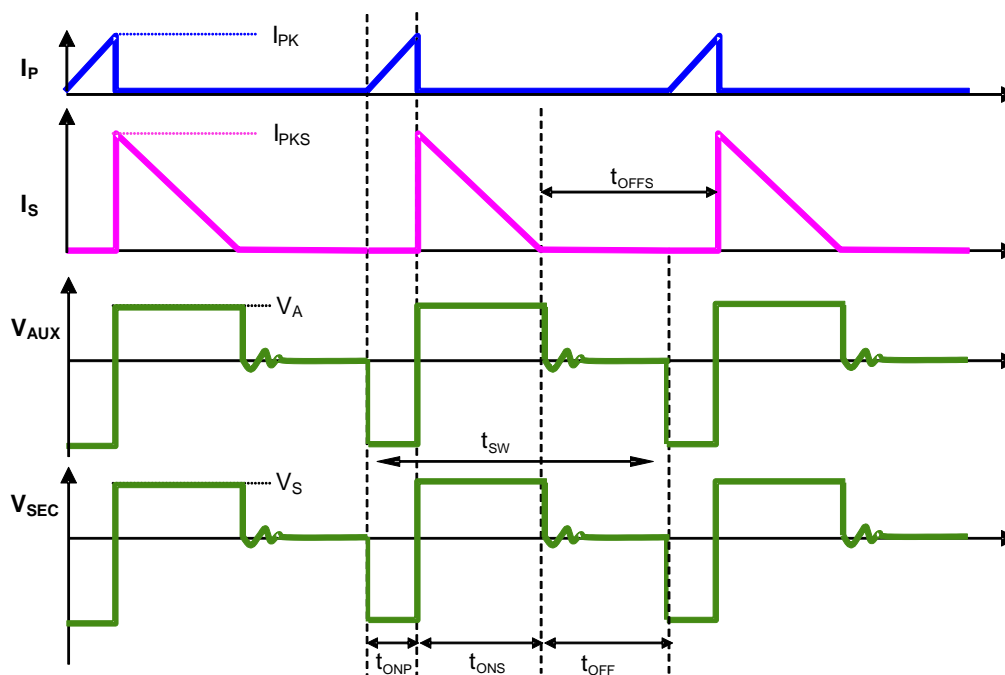

Figure 2. The Operation Waveform of Flyback PSR System
Figure 2 shows the typical waveforms which demonstrate the basic operating principle of AP3785T application. And the parameters are defined as following.
The AP3785T can work in constant-current (CC) mode. Figure 2 shows the secondary current waveforms.
As illustrated in Figure 2, when the current  $i_p(t)$  rises up to  $I_{PK}$ , the switch Q1 turns off. The constant peak current is given by: